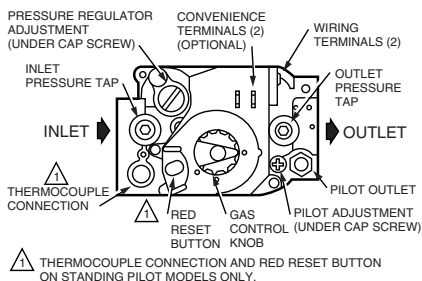

Fig. 1. Top view of VR82xx, VR83xx, A, H, K, and M combination gas controls.
1. Remove pilot adjustment cap screw. Refer to Fig. 1.